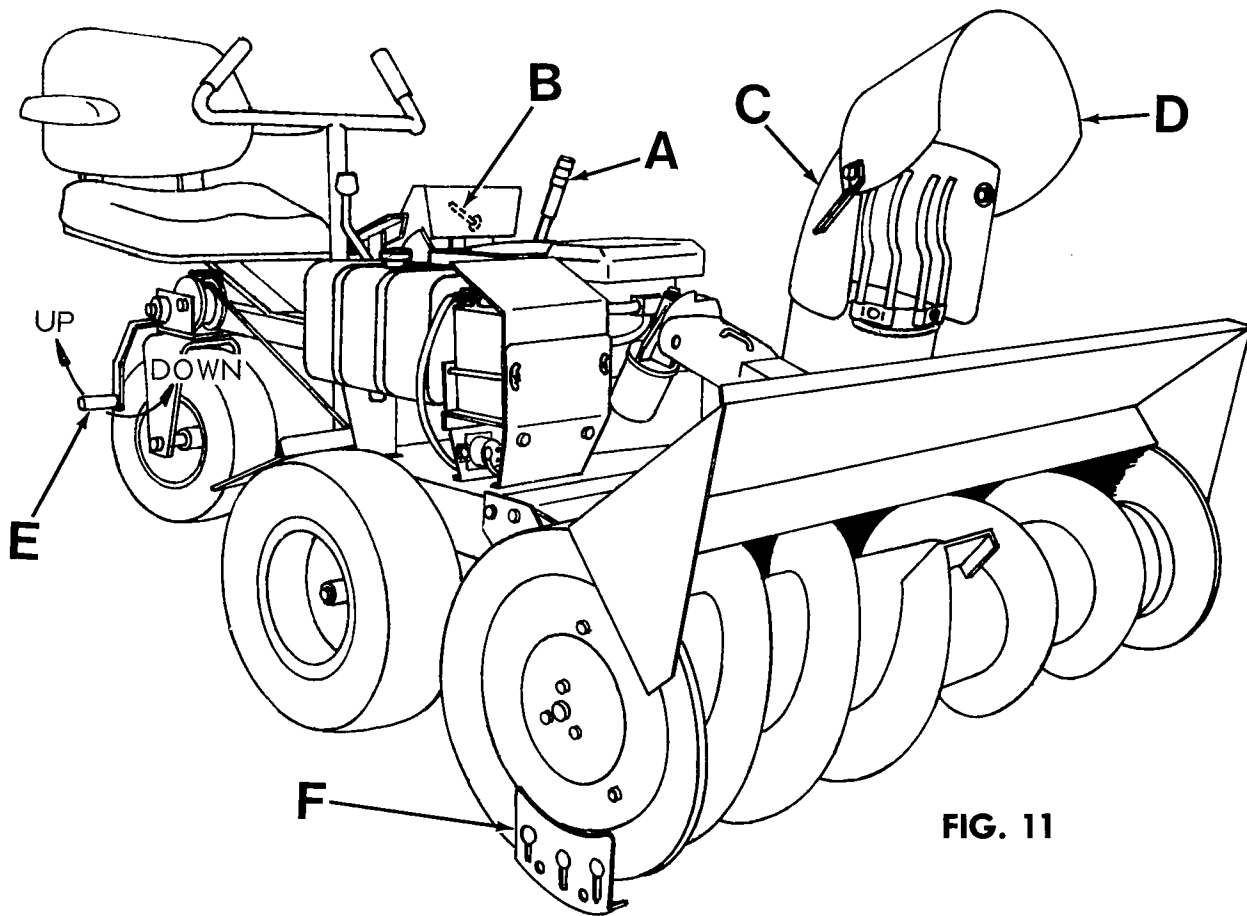

FIG. 11
3. Test the following controls for smooth operation. (See Fig. 11)
A. Tractor PTO On/Off Lever (See Fig. 11)
B. Discharge Chute Control (See Fig. 11)
C. Discharge Chute (See Fig. 11 & 12)
E. Lift Crank (See Fig. 11)
F. Skid Shoe Adjustment (See Fig. 11 & 13)